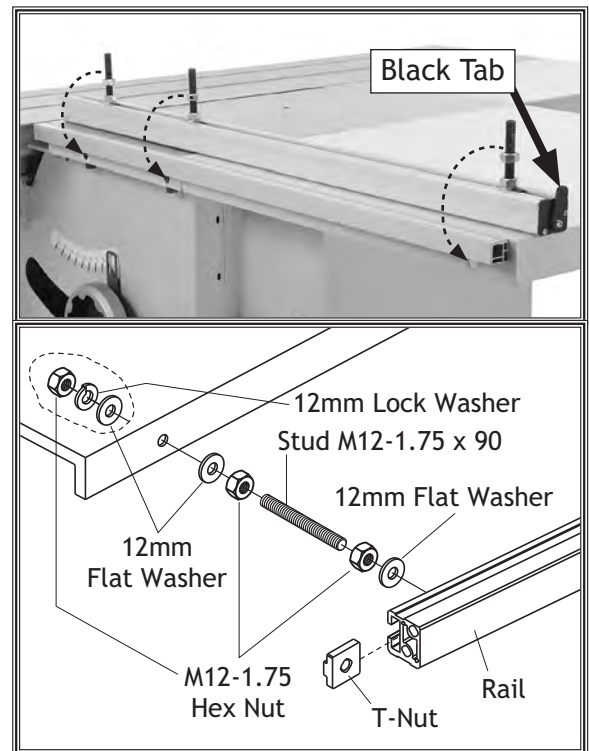

Figure 18. Rip fence rail mounting.
11. Mount the rip fence rail as shown in **Figure 18**. Make sure the black tab is toward the back end of the saw. Adjust the hex nuts so the gap between the rail and tables is even, but leave the rail slightly loose for now.